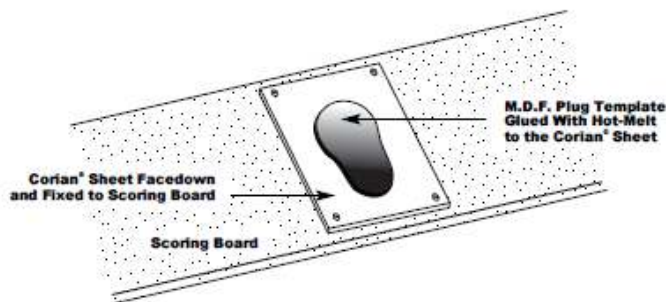

Figure H-3
4. Replace the  $\frac{3}{8}$ " (10 mm) straight cutter with the standard 15° angle cutter and set the depth of this cut about three-quarters of the thickness of the Corian® sheet. As shown in Figure H-3, rout the angle into the Corian® plug. Reset the cutter depth so it passes just through the sheet thickness and about  $\frac{3}{16}$ " (5 mm) into the scoring board. This trimming cut will ensure a good-quality edge.